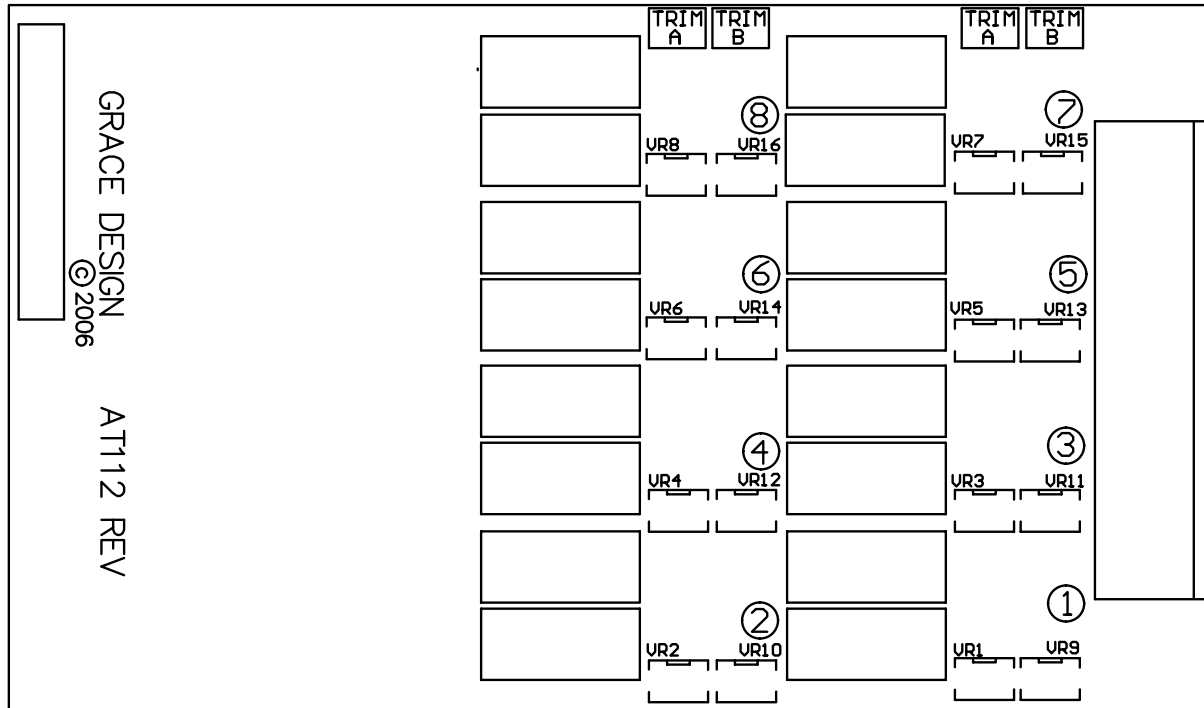

figure 7 / A/D trim locations
- 4)Using a non conductive tweaker tool, adjust the trim control corresponding to the current channel and sensitivity range (A) or (B). Each channel is labeled on the A/D converter analog input card (see figure 7 below). Trim (A) and trim (B) are also labeled. While adjusting the trim control, monitor the digital output on your recording device. Turn the trim until the digital level matches the desired headroom level. That is the level you will be adjusting to will be the desired headroom in decibels below full scale. For example if you have selected +20dBu = 0dBFS (16dB Headroom) for sensitivity (A), turn the trim (A) potentiometer until your digital meters read -16dBFS. If you have selected +24dBu = 0dBFS (20dB Headroom) for sensitivity (B), turn the trim (B) potentiometer until your digital meters read -20dBFS.